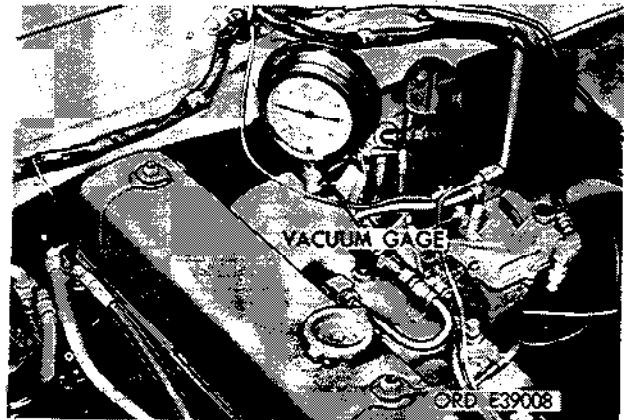

Figure 2-47. Manifold vacuum test.
a. Remove the pipe plug installed in the top rear of the intake manifold. Insert adapter on end of vacuum gage hose (fig. 2-47). Be sure all con-